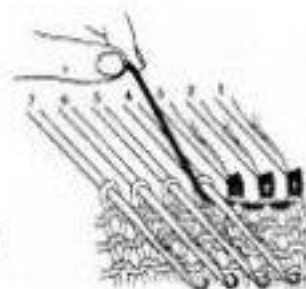

Fig.57
- (c) Pass the yarn under the end needle in position (E) nearest the needles in position (B), leaving it over the other needles in position (E). (Figs.57 & 58)